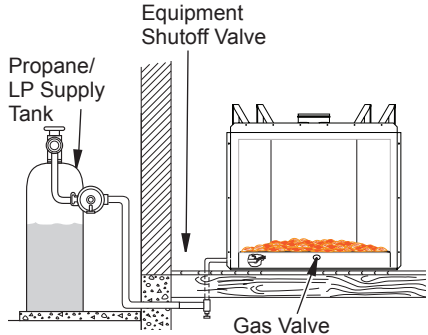
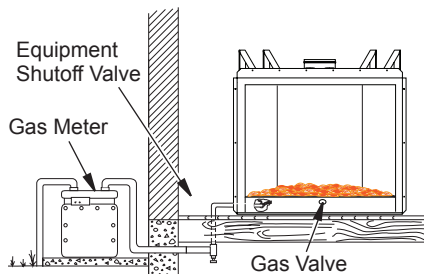

Figure 22 - Checking Gas Joints for Propane/LP Gas Fireplace
Figure 23 - Checking Gas Joints for Natural Gas Fireplace
3. Check all joints from propane/LP supply tank or gas meter to equipment shutoff valve (see Figure 22 or Figure 23). Apply noncorrosive leak detection fluid to all joints. Bubbles forming show a leak.
4. Check all joints from equipment shutoff valve to gas valve (see Figure 22 or Figure 23, page 19). Apply noncorrosive leak detection fluid to all joints. Bubbles forming show a leak. Correct all leaks at once.